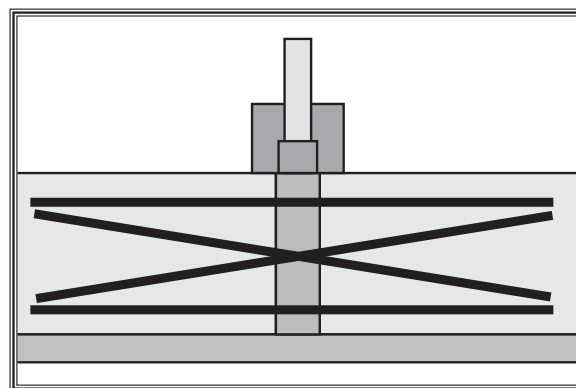

Figure 50. Straightedge positions for checking infeed/outfeed parallelism.
4. Place the straightedge in the positions shown in **Figure 50**. In each position, the straightedge should sit flat against both the outfeed table and the infeed table.
7. Place the straightedge in one of the positions shown in **Figure 50**, and adjust the eccentric bushings under the infeed table so the straightedge lies flat against both tables. Repeat this step with each of the remaining straightedge positions as many times as necessary until the infeed table is parallel with the outfeed table.